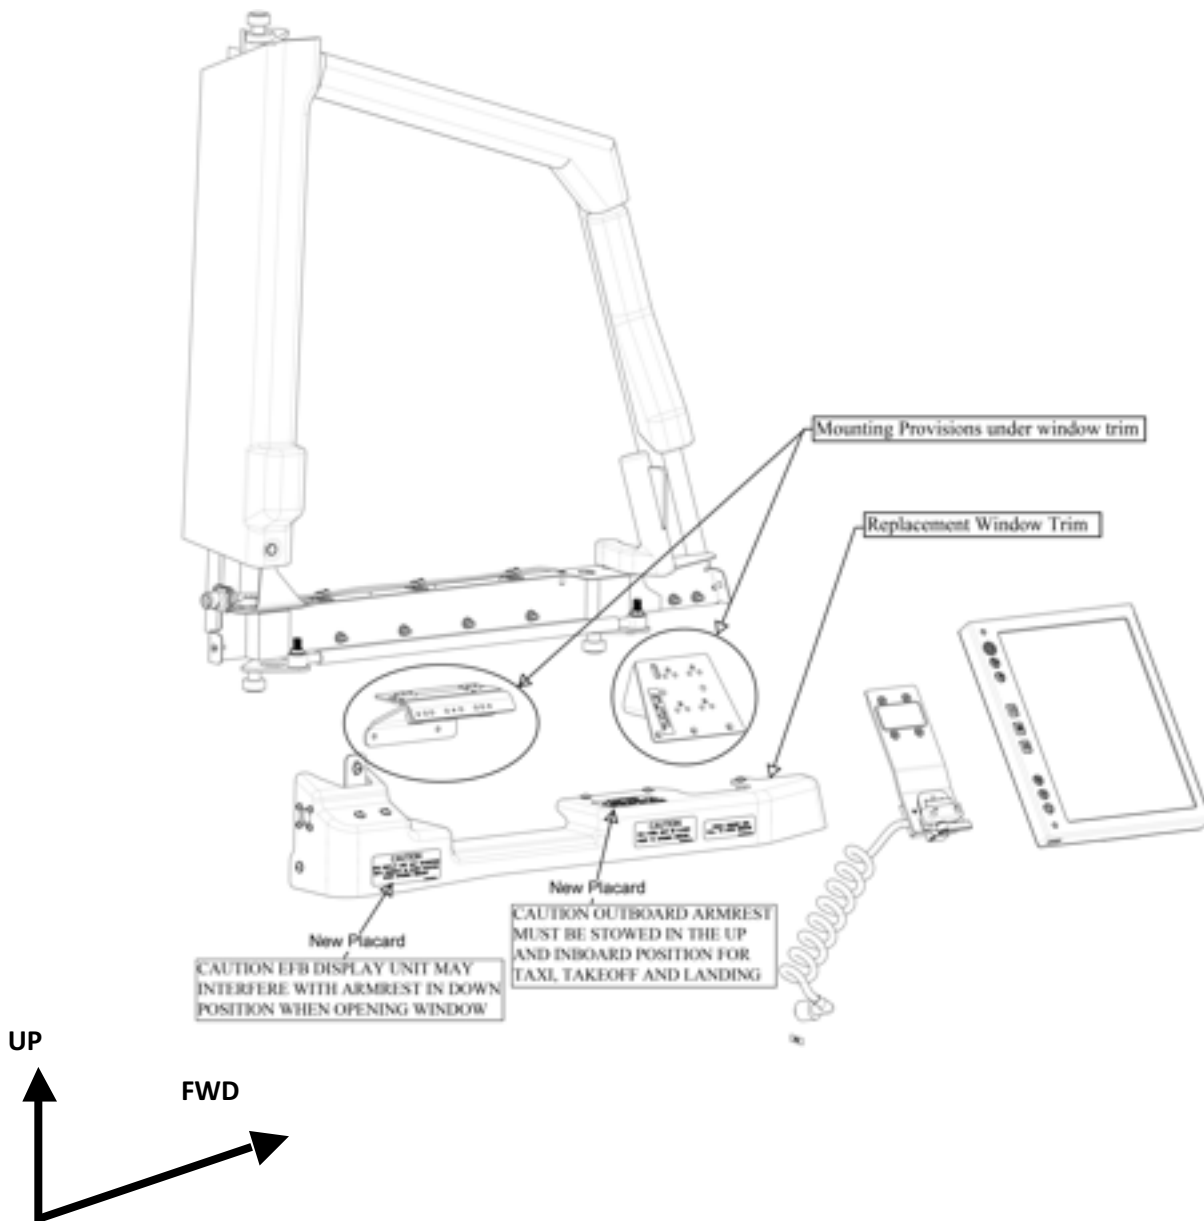
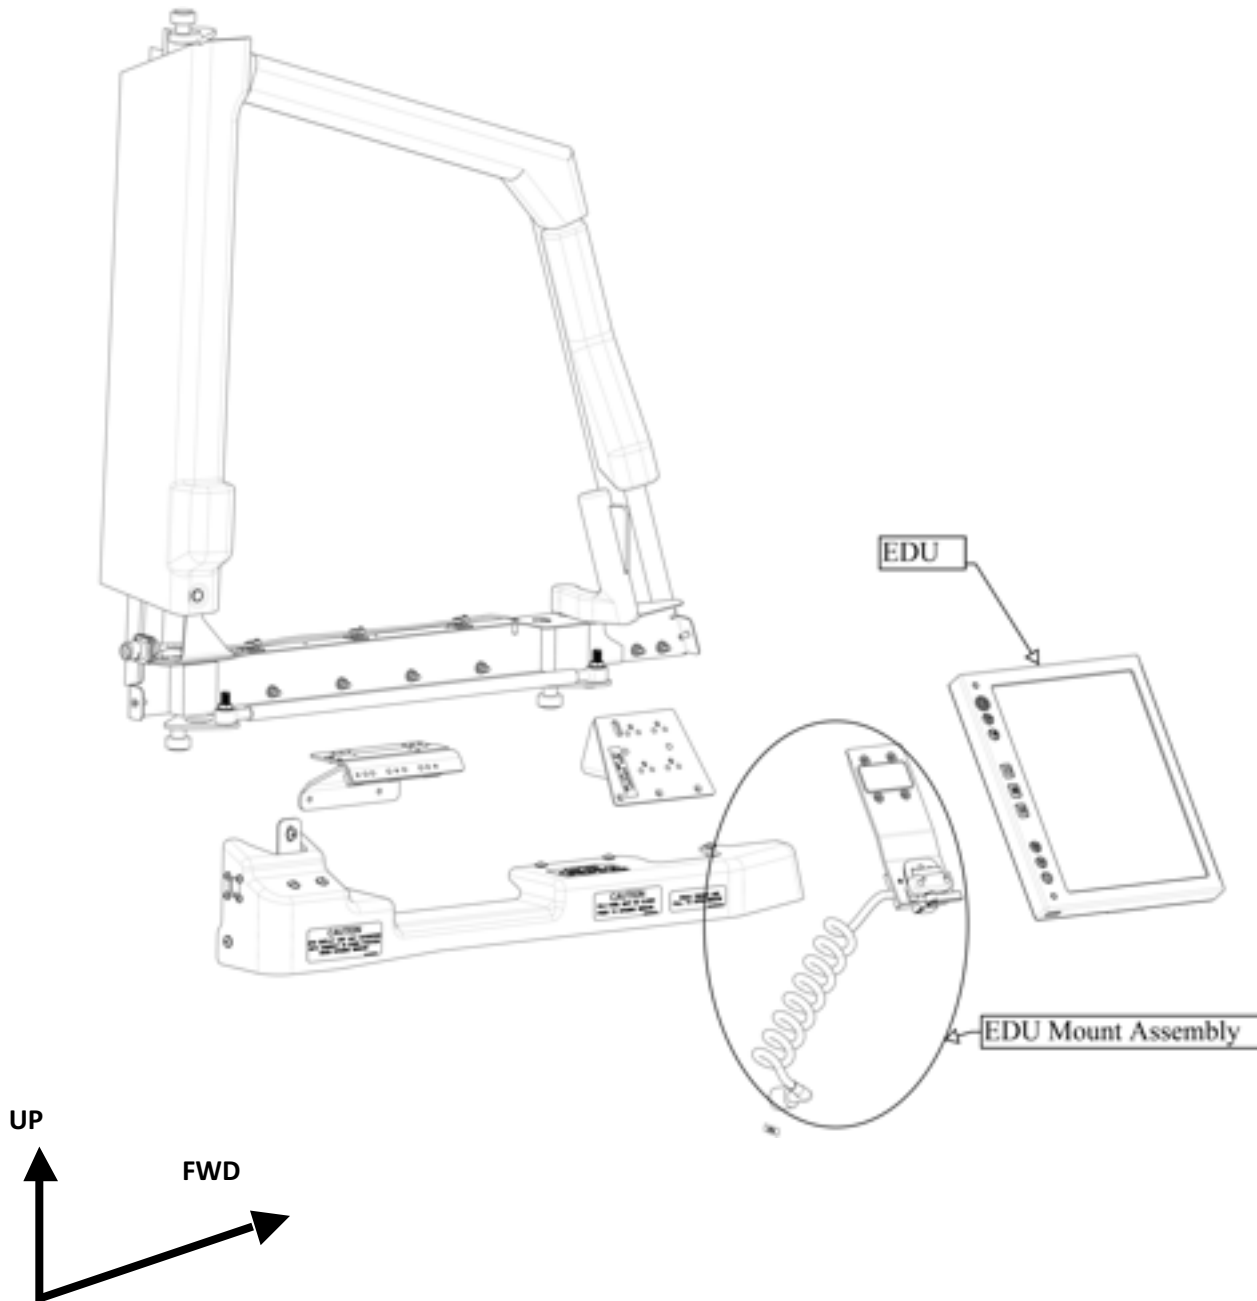

Figure B1: Installed Window Trim and EDU Mounting Brackets
Figure B2: Installed EDU Mount Assembly and EDU
- » Modify the existing captain's side sliding window to replace the existing window trim and add new mounting brackets under the window trim that attach to the window frame. Add 'Caution' placards regarding armrest operation after EFB installation. See Figure B1. The modification to the first officer's sliding window will be a mirror image of the captain's sliding window.
- » The new EDU mounting brackets (Figure B1) are designed to hold an EDU mount assembly in a fixed location on the sliding window. The EDU then is docked in the EDU mount assembly. Refer to Figure B2 for details. The first officer's installation is a mirror image. Once installed, the EDU is not removable by the flight crew; it is only removable by maintenance personnel using tools.